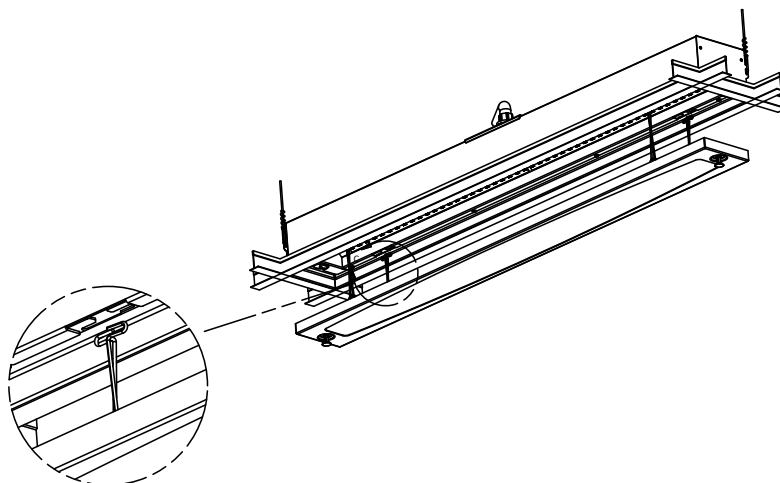

Figure 5
1. Squeeze the torsion springs on one end of the door until the spring bent ends overlap. See Figure 5.